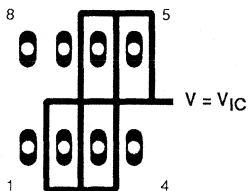
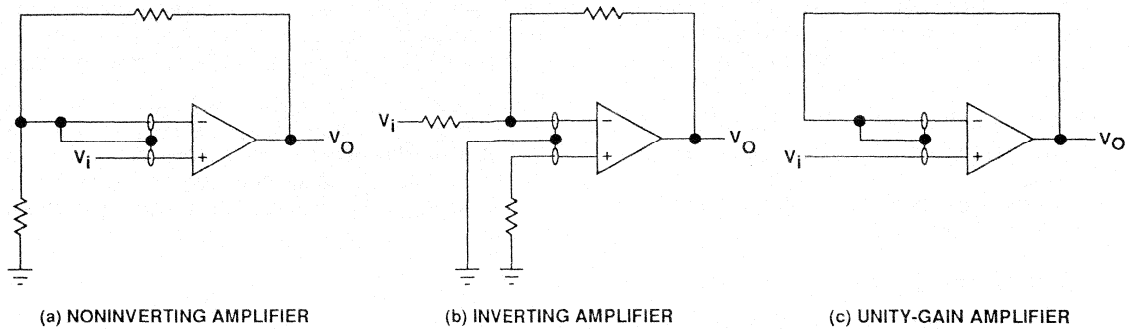

Figure 33. Isolation Metal Around Device Inputs
Figure 37. Guard Ring Schemes
1. Isolate the device from other potential leakage sources. Use a grounded shield around and between the device inputs (see Figure 33). Leakages that would otherwise flow to the inputs will be shunted away.
Because of the extremely high input impedance and resulting low-bias current requirements, the TLV2322 is well suited for low-level signal processing; however, leakage currents on printed circuit boards and sockets can easily exceed bias-current requirements and cause a degradation in device performance. It is good practice to include guard rings around inputs (similar to those of Figure 33 in the Parameter Measurement Information section). These guards should be driven from a low-impedance source at the same voltage level as the common-mode input (see Figure 37).